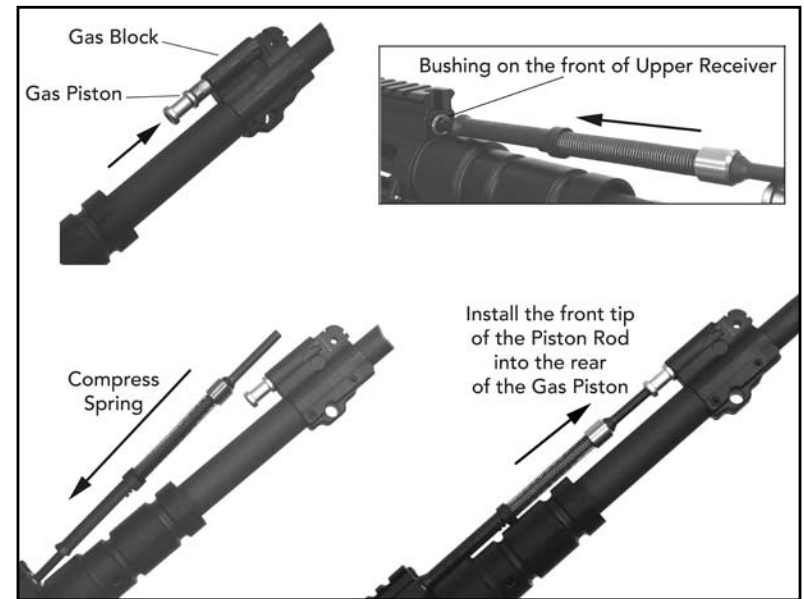

Fig. 40 – Reinstalling the Gas Piston and the Piston Rod
- a. Install the gas piston into the back of the gas block. The piston rings need not be staggered prior to installation (Fig. 40).